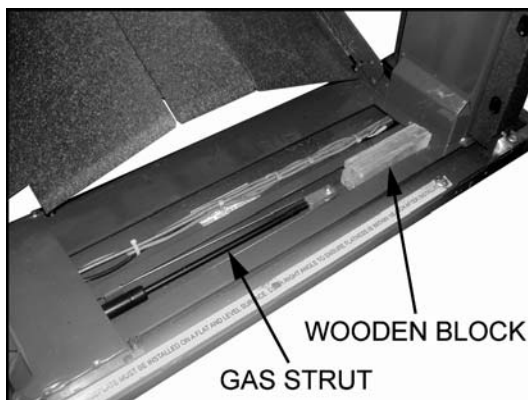

FIGURE 4
4. Refer to **FIGURE 4**. Partially stow platform and insert a 6" x 2" x 2" wooden block (or similar) in baseplate. This will prevent gas strut from fully extending and decrease tension on cable.
10. Pull cable and insert wooden block (or similar) in baseplate, as shown in **FIGURE 4**. Allow slack in cable.
12. Partially stow lift to remove wooden block (or similar) from baseplate as shown in **FIGURE 4**. Tension to cable will be restored when wooden block is removed.